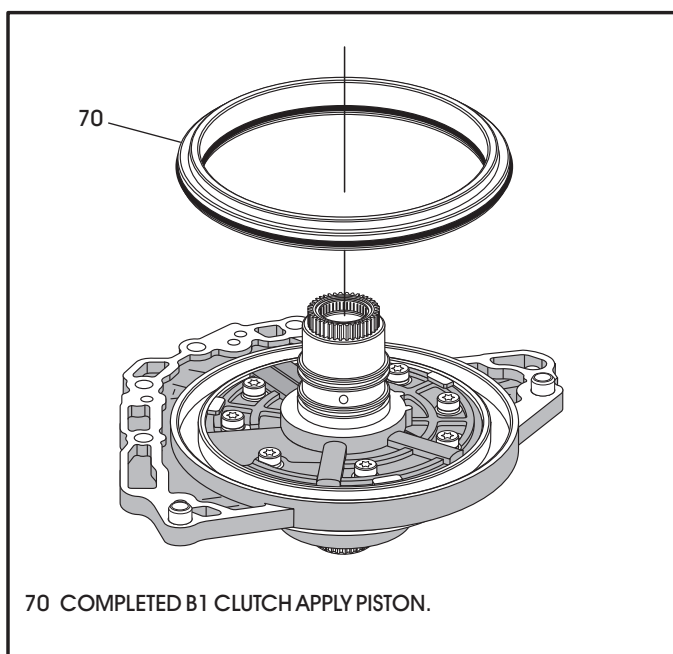

Figure 103
17. Install the B1 clutch apply piston into the oil pump cover, as shown in Figure 103.